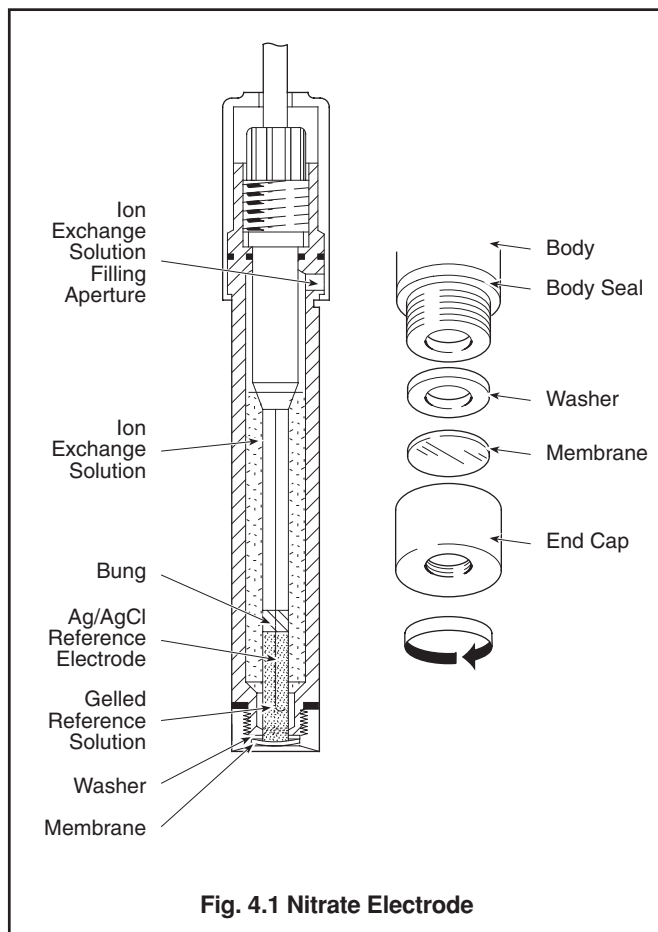

Fig. 4.1 Nitrate Electrode
4.1 Principle of Operation – Figs. 4.1